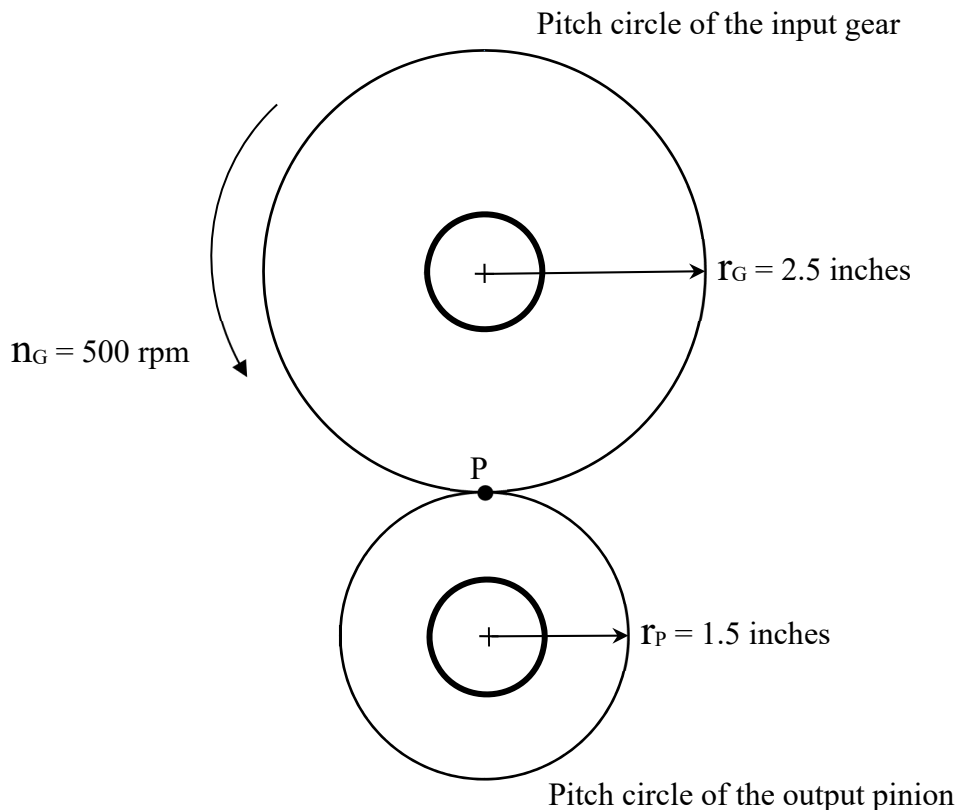

Figure 4. A commercial quality spur gearset. (Not drawn to scale).
**Problem 4 (25 points).** For the commercial quality spur gearset shown in Figure 4, the diametral pitch is  $8 \text{ inches}^{-1}$ . The pitch circle diameter of the input gear is 5 inches and the pitch circle diameter of the output pinion is 3 inches. The teeth of the gearset are full-depth with a pressure angle of  $20^\circ$  and the face widths of the gear and the pinion are 1.25 inches. The gear is rotating at 500 rpm and transmits 5 horsepower to the pinion. The gear has a light shock load and the pinion has a moderate shock load where the loads are applied at the tips of the teeth. The gear and the pinion are solid gears, made of carburized and hardened Grade 1 steel with a repeatedly applied bending strength  $S_t = 55 \text{ kpsi}$ , and are operating at room temperature. The known AGMA factors for the gear and pinion are: dynamic factor  $K_v = 1.25$ , size factor  $K_s = 1.0$ , and load distribution factor  $K_m = 1.0$ . Determine: